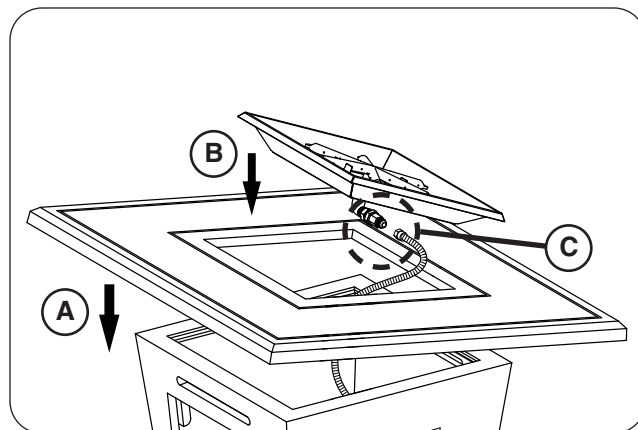

Fig. 30-3 Place top, burner, and connect flex
3. **CAREFULLY** place the top on the unit (see Fig. 30-3, A).
4. Drop the burner assembly into the opening in the center of the firetable top, with the two burner pan holes facing toward the door (see Fig. 30-3, B).
5. Locate the flex connector (marked OUT) that is coming off the valve assembly. Route it to the connection found on the underside of the burner assembly and connect. Tighten securely. See Fig. 30-3, C.